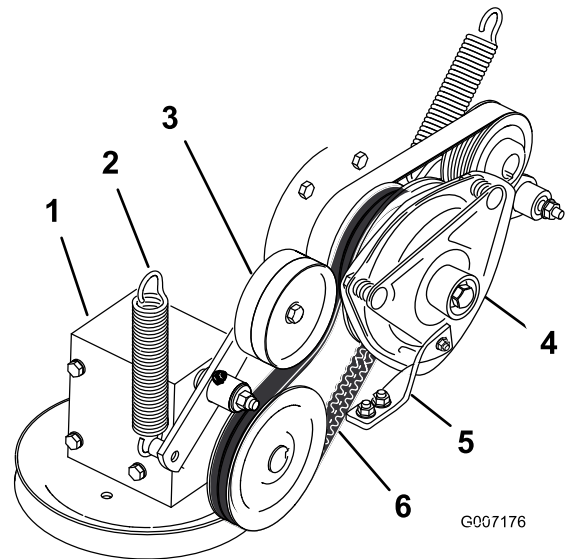

Figure 62
4. Remove the spring from the idler arm (Figure 62).
7. Install the PTO drive belt around the clutch pulley and the gearbox pulley (Figure 62).
9. Install the spring to the idler arm (Figure 62).